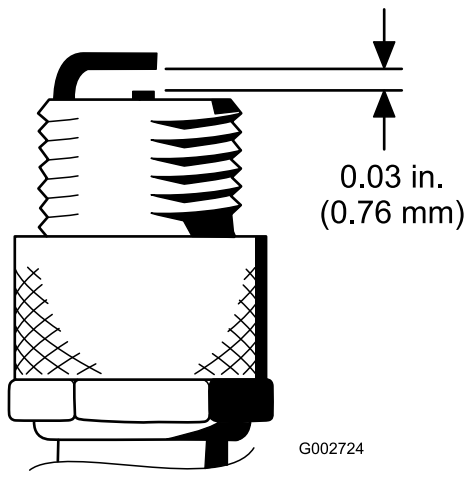

Figure 27
4. Set the air gap between the center and side of the electrodes at 0.030 in. (0.76 mm) (Figure 27). Install the correctly gapped spark plug with gasket seal, and tighten the plug to 200 in-lb (23 N·m). If a torque wrench is not used, tighten the plug firmly.